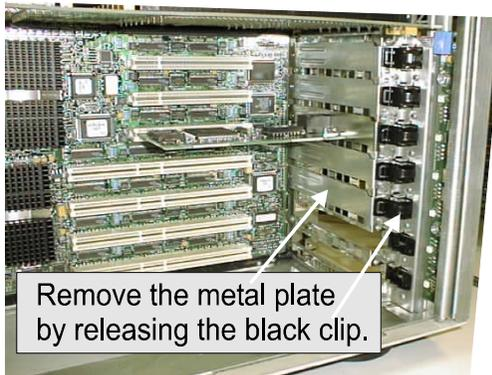

Figure 2-5. Remove the Metal Plate
2. Remove the metal cover plate from the slot's access port (at the back of the cabinet), usually by releasing the black clip as shown in Figure 2-5.